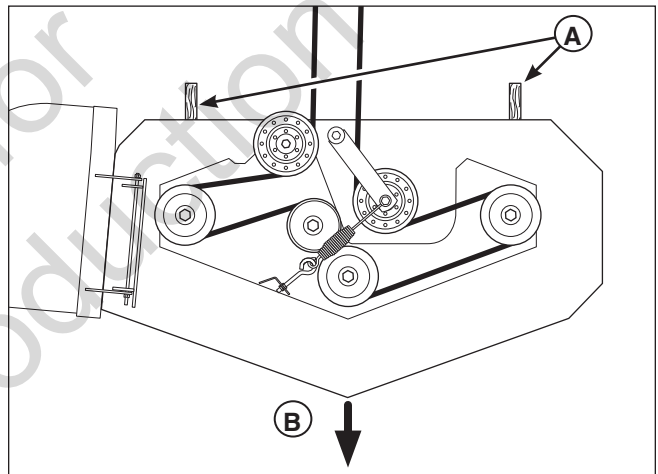

Figure 28. 2 x 4 Locations
4. Place 2 x 4 blocks under the rear of the mower deck with the 3-1/2" sides being vertical. See Figure 28.